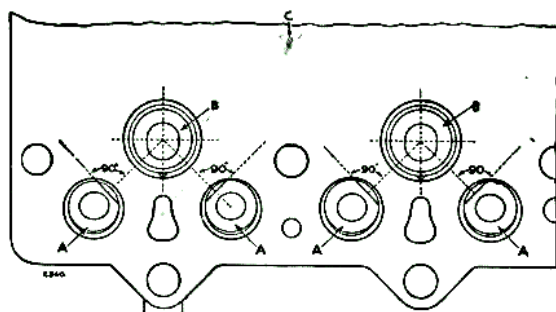

Fig. A-418—Correct position of push-rod tubes in relation to hot plugs
2. If the push rod tubes were removed, new tubes complete with new sealing rings, smeared with Silicone M.S.4 Compound, should be pulled into position, using tool Part No. 274402. Ensure that the chamfers on tube and in cylinder head are in full contact and that the "flat" of tube is at right angles to a line drawn between the centre of push rod tube and centre of hot plug, as illustrated by Fig. A-418.